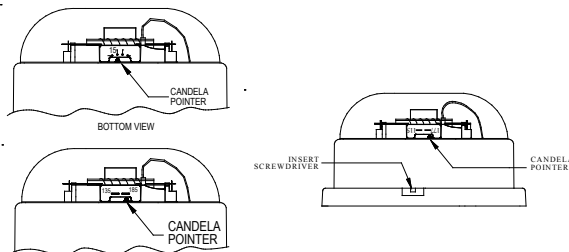

Figure 7: E70H-24MCW/E90H-24MCC; E70H-24MCWH; E90H-24MCCH
- To move selector switch, insert screwdriver into slot shown on the bottom side of the strobe. The setting is indicated by a pointer and can be seen on the bottom side of the lens. See Figure 7.
- Mount the speaker mounting plate to the backbox. Next slide the grille over the speaker mounting plate strobe and attach with (2) screws.